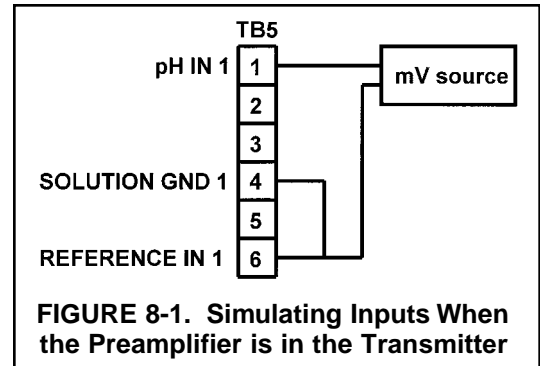

FIGURE 8-1. Simulating Inputs When the Preamplifier is in the Transmitter
4. If a standard millivolt source is available, disconnect the jumper wire between pH IN and REFERENCE IN and connect the voltage source as shown in Figure 8-1. Be sure to jumper the reference and solution ground terminals.